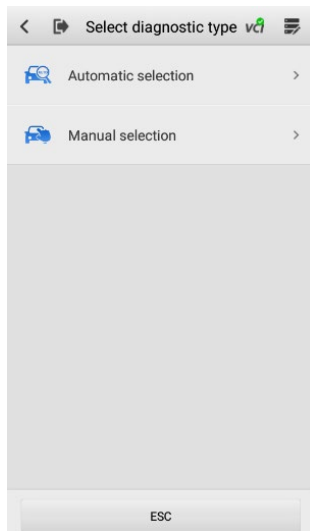

Figure 4-5 Selection Screen
3. Select the **Manual Selection** option (Figure 4-5).